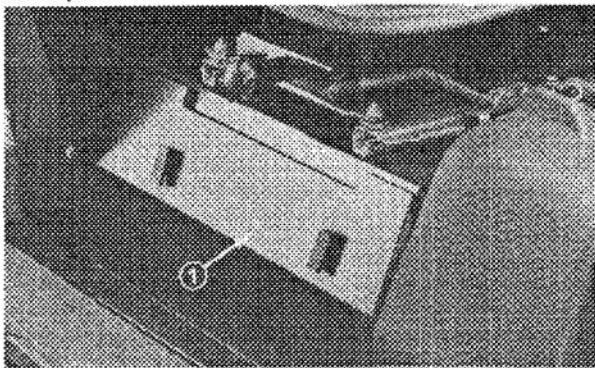

Figure 16
(Fig. 16 & 17)
2. Unlatch access panel (Fig. 16), in front of seat, to expose front axle / dipstick.